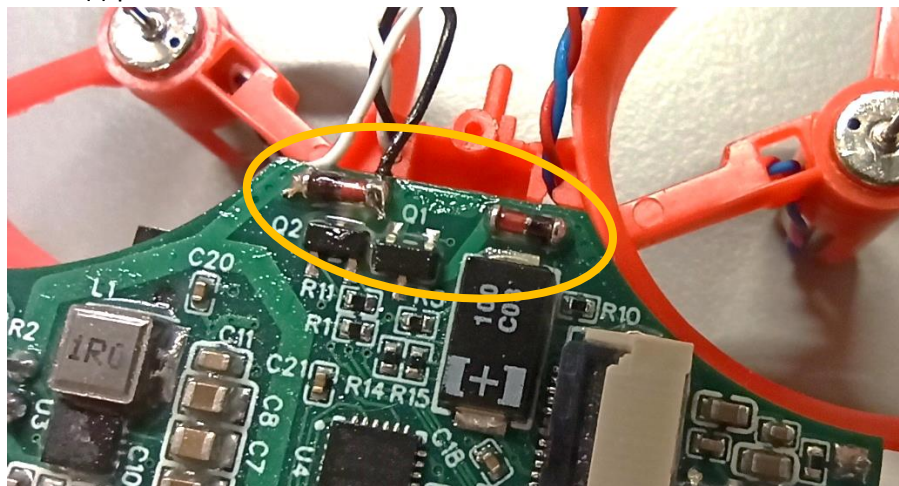

Figure 51. Soldering the diodes and the motor wires to the PCB.
- First, solder the surface mount diodes. The side of the diode with the black band **faces outwards**. See Figure 51 for reference.